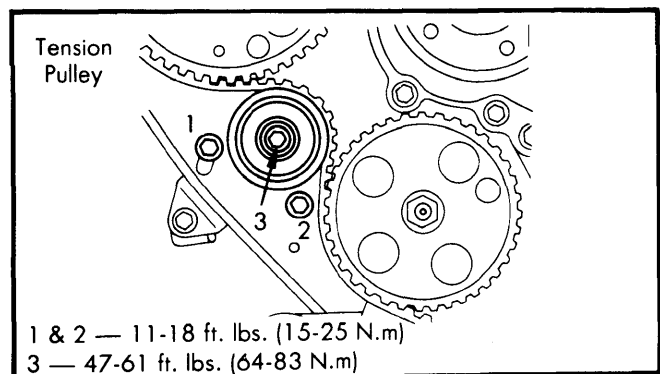

Fig. 9 I-Mark Tension Pulley Bolt Tightening Sequence
4) Position belt so that slack is in area of tension pulley. Depress tension pulley with finger and install tension spring. Hand-tighten tension pulley plate bolts in sequence shown. See Fig. 9.
6) Tighten tensioner pulley and plate bolts in sequence. See Fig. 9. Belt tension between camshaft pulley and injection pump pulley should be 47-64 lbs. (21-29 kg.). Adjust valves and reinstall cam cover. To complete installation, reverse removal procedures.